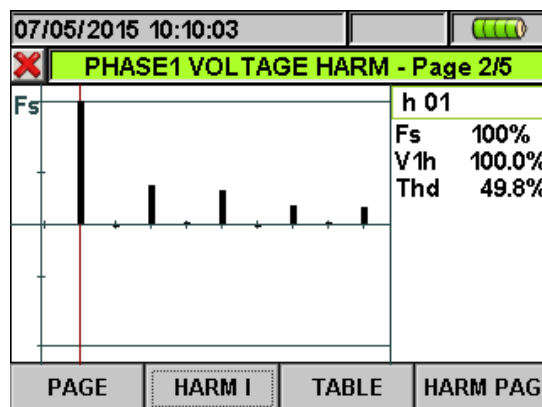
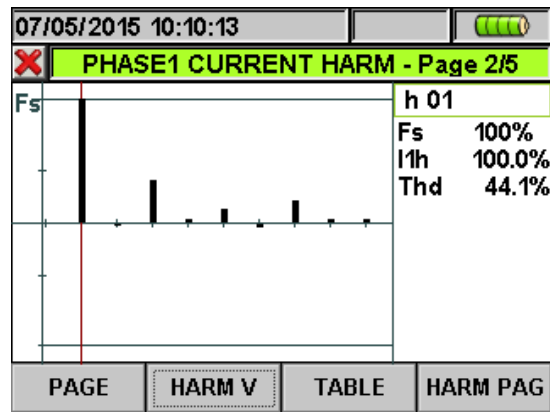

Fig. 37: Harmonic analysis voltage V1 in percentage values for 4-wire system
Fig. 38: Harmonic analysis of current I1 in percentage/absolute values for 4-wire system
- Harmonics values of single V1, V2, V3 voltages and neutral voltage Vn and single currents I1, I2, I3 and neutral current In (for three phase 4-wire system – **not available for PQA400**) with THD% values both with histogram graphics and with numerical values in percentage or absolute value depending on the desired settings. These values are shown in four pages selectable by pressing cyclically the **F1** key (or touch the "**PAGE**" at display). On Fig. 37 and Fig. 38 are display as an example, the situation relative to L1 phase for voltage and current on 4-wire systems is shown in the next pictures: